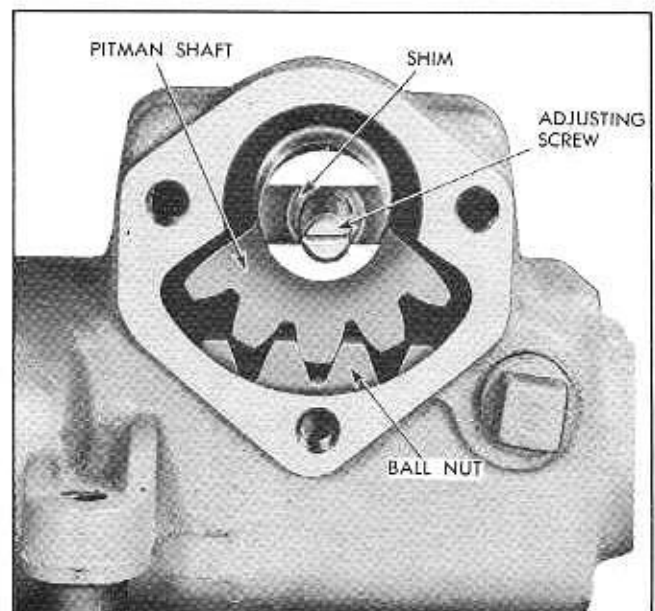

Fig. 9-19 Positioning Pitman Shaft and Ball Nut
6. Install pitman shaft and adjusting screw with sector and ball nut teeth positioned as shown in Fig. 9-19.